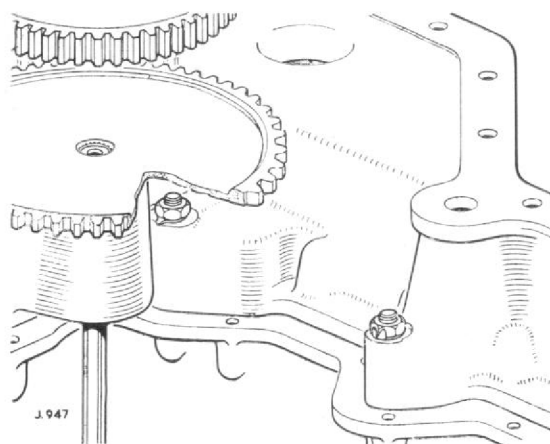

Fig. 1. The two internal nuts which assist in securing the sump to the bottom wheelcase.
1. Unlock and remove the two internal nuts and tab washers which secure the sump to the bottom wheelcase, Fig. 1.